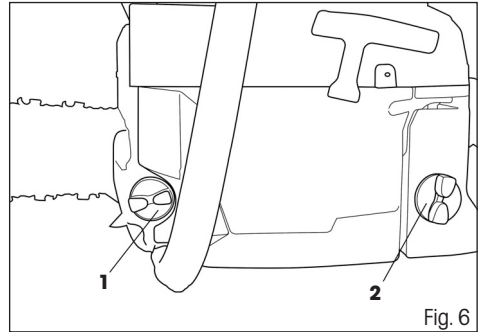

Fig. 6
- ✿ Screw off the oil tank cap (Fig. 6, point 1).
- ✿ Screw off the fuel tank cap (Fig. 6, point 2) and pour in the fuel. Then screw the cap back on.